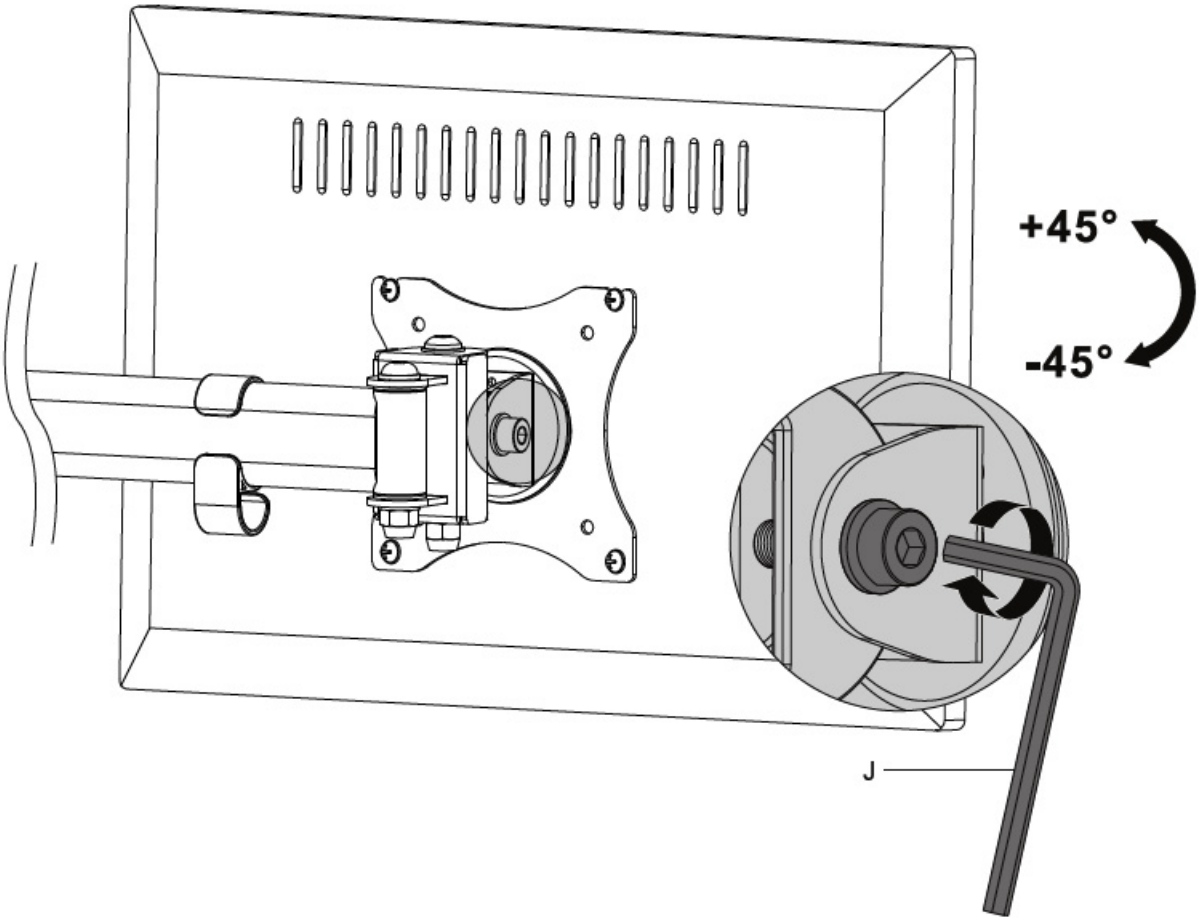

Figure 4
- 1. Use the 6mm Allen Key (J) to loosen the **Tightening Bolt**, then tighten the bolt to fix the tilt angle as shown in **Figure 4**.